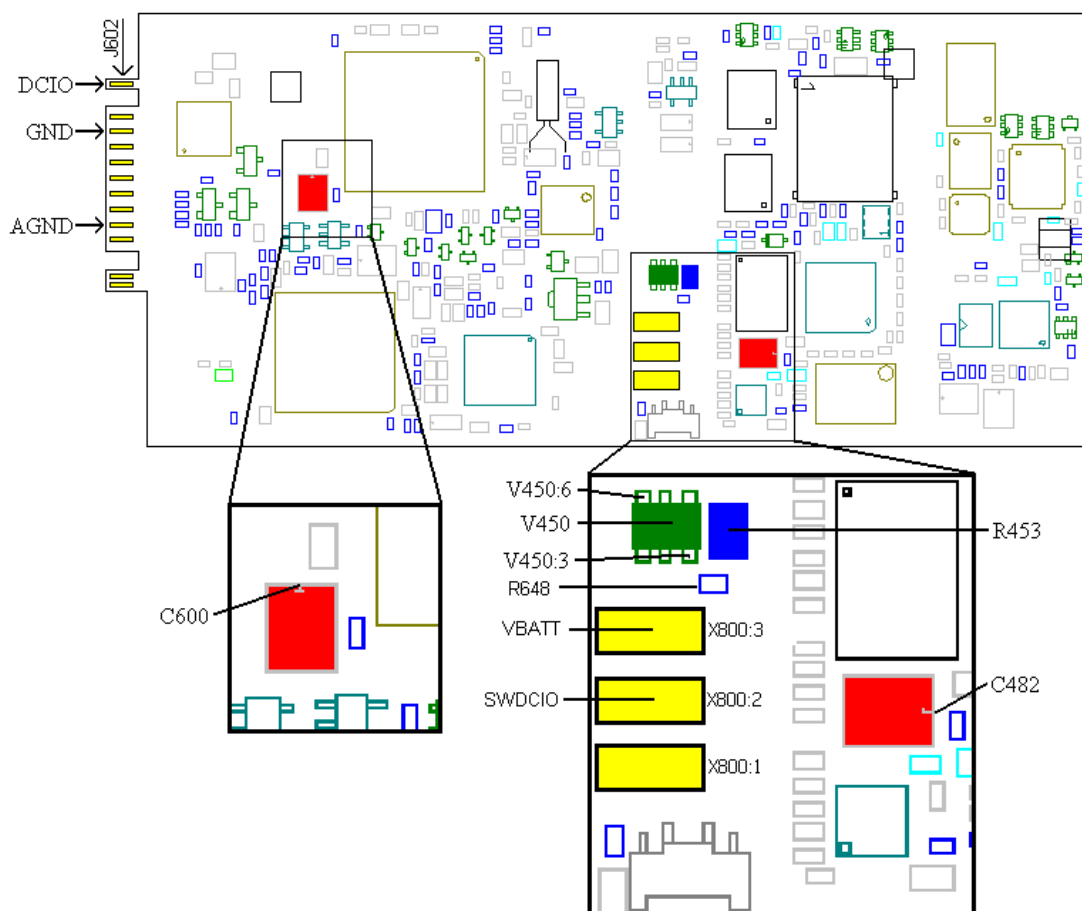

Fig. 6.1.
Check the feed voltages VDIG (~3.2 V) on the marked side of C600 (class A) and VRAD (~3.8 V) on the marked side of C482 (class A, Fig. 6.1).
Measure the resistance between GND (pin 10) and AGND (pin 4) (Fig. 6.1) at the system connector (~0 Ohm).
Measure the resistance between V450 pin 1 and X800 pin 3 (see Fig. 6.1), it should be < 1 kOhm.
- If it is too high, it is either R453 or R648 (both class A and in fig. 6.1) that is faulty. Measure their resistance and replace the resistor that is faulty.
Measure the resistance of R453 (~0.1 Ohm, fig. 6.1).
Measure the resistance of R648 (~0 Ohm, fig. 6.1).
Measure the resistance between DCIO and V450:6 (~0 Ohm, Fig. 6.1).
Measure the resistance between GND (pin 10) and AGND (pin 4, Fig. 6.1) at the system connector (~0 Ohm).